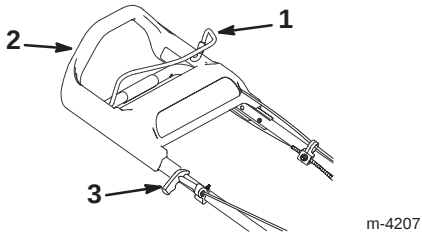

Figure 8
The starter handle and the blade control bail are on the upper handle as shown in Figure 8.
- **Manual Starting**—Pull the starter handle lightly until you feel resistance, then pull it sharply (Fig. 8). Allow the rope to return to the handle slowly.